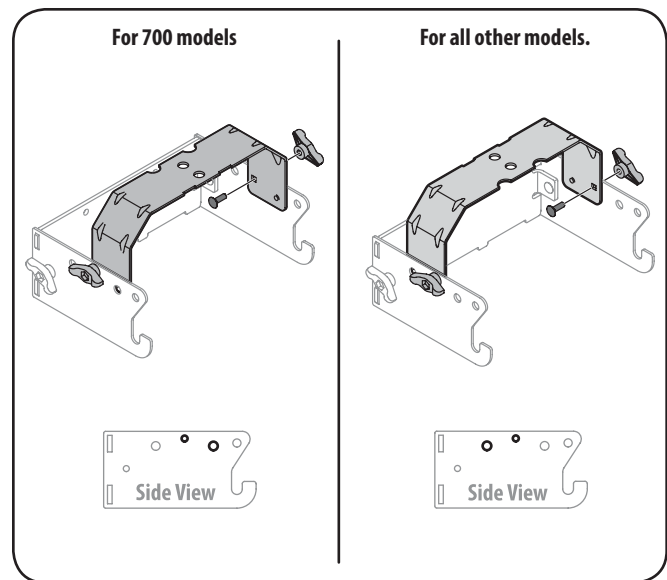

Figure 4-4
2. Flip over assembly and mount the hitch support bracket to the mounting assembly as seen in Figure 4-4.
Note: The holes closest to the mounting hooks are to be used for all 700 model series machines, while the two holes closest to the cross mount are for all other models. The hitch support bracket will need to be flipped to enable alignment of the proper holes depending on the model of machine this bagger is being installed on. See Figure 4-4.
1. Place the hooked ends of the mounting assembly over the shoulder bolts, as in Figure 4-4, on the tractor and line up the hitch support bracket center hole with the hole on the tractor's hitch.